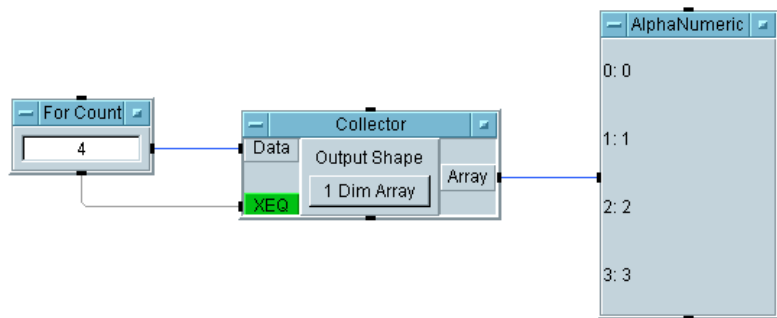

Figure 128 The Collector Creating an Array
- 7 Run the program. It should look like Figure 128.